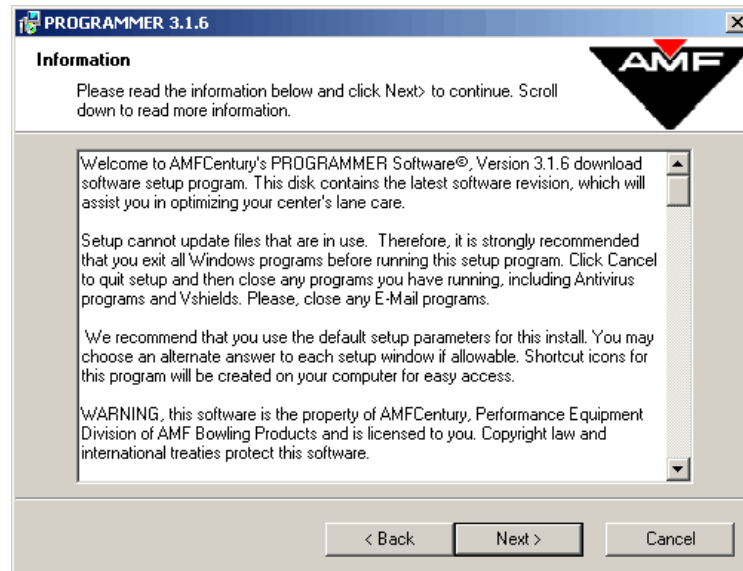

Figure 1-5
7. The screen that follows displays copyright and general information about installing the program properly (**Figure 1-5**). It is advised that all Windows programs currently running should be closed before proceeding any further in the installation. Once this has been done, click <Next>.